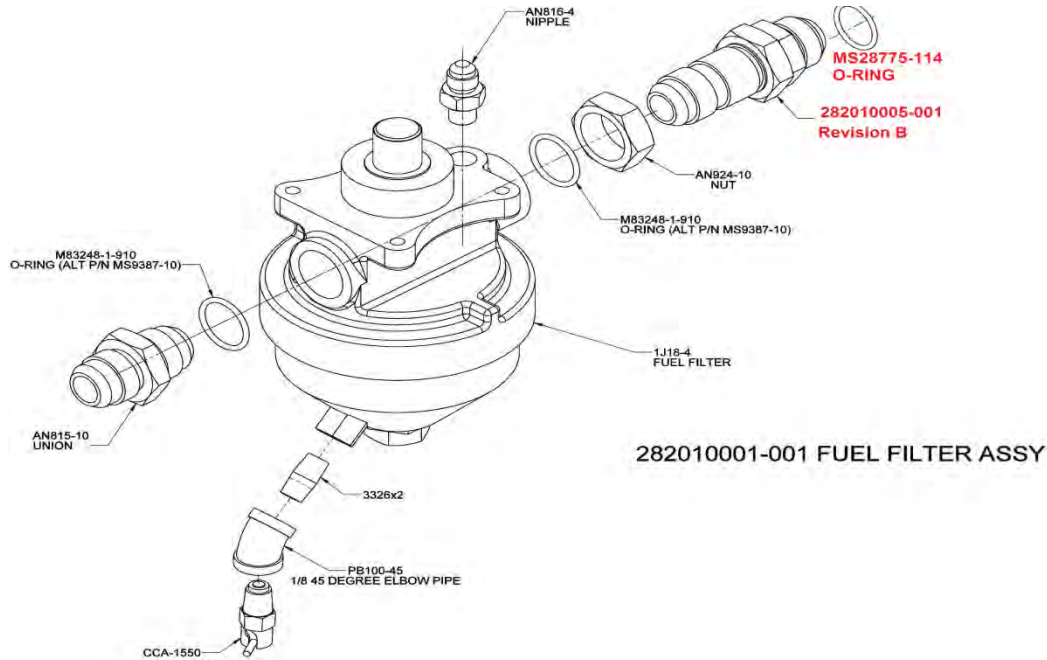

FIGURE 114-5
See Figure 114-5 for details
- i. Turn upper half of filter counter clockwise and remove from existing 282010005-001 fitting. \*\*See Figure 114-5.
- iii. Place a new MS28775-114 O-Ring on the new 282010005-001 Revision B fitting and re-assemble in the fuel pump. \*\*See Figure 114-5.